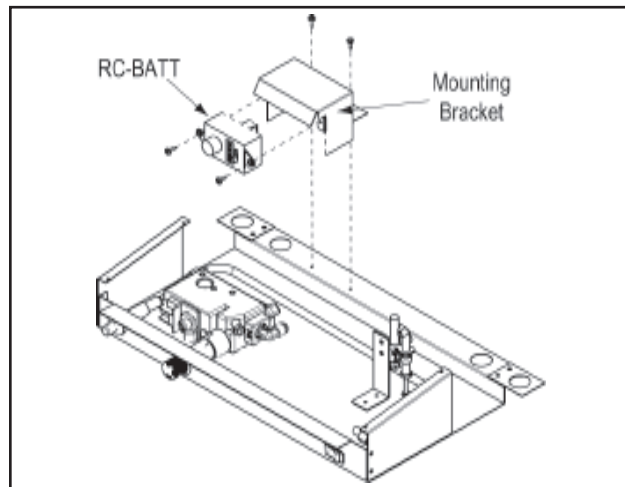

Figure 7 - Placing the RC-BATT-HTL (Dynasty Log Set only)
- d. Attach the RC-BATT-HTL to the mounting bracket located at the rear of the base pan. See Figure 7.